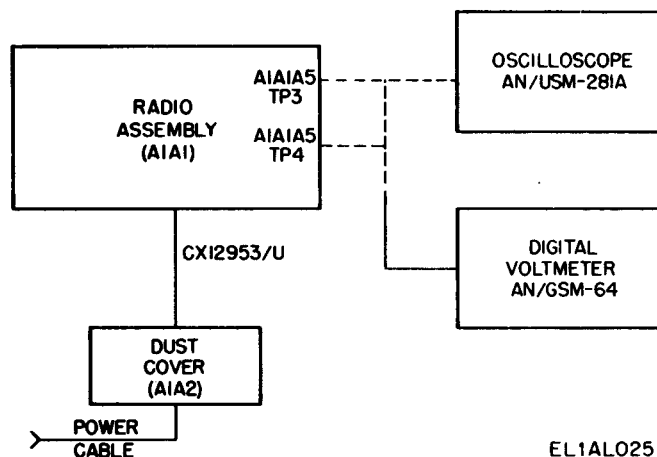

Figure 6-17. Power supply assembly test connections.
(1) Perform the preliminary test setup (para 6-12).
(2) Connect the test equipment as shown in figure 6-17.